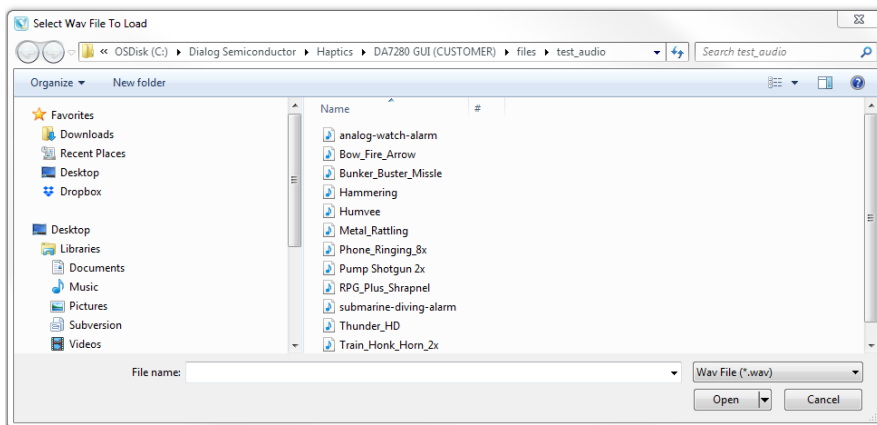

Figure 57. Included sound effect files
- **Load File:** navigates you to the `test_audio` folder bundled with the GUI. A number `.wav` files of sound effects are included for demonstration purposes (Figure 57).